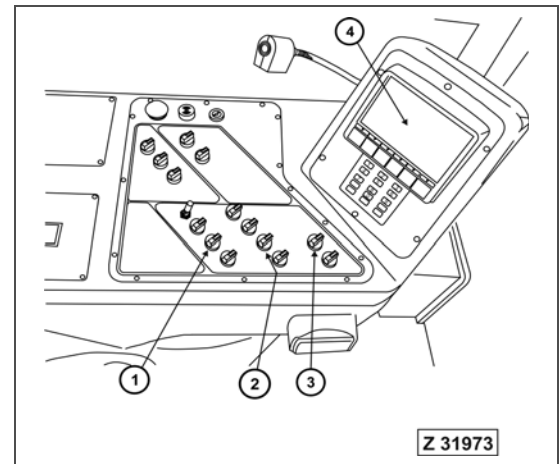

Fig. 3-200
If repairs under the above conditions have been carried out it is necessary to reset the control circuit of the lubrication system by actuating the rotary switch (2), Fig. 3-200 for a full lube cycle.